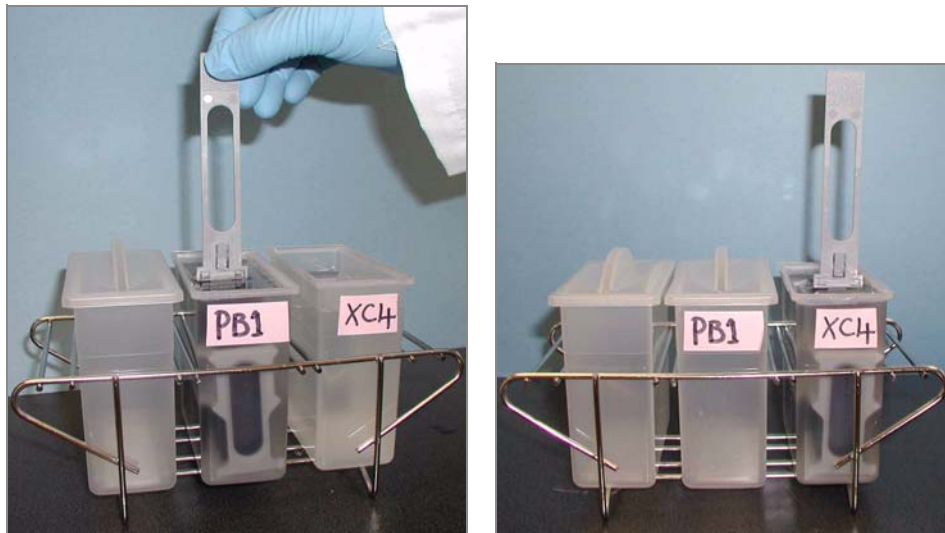

Figure 176 Moving BeadChips from PB1 to XC4
13. Remove the staining rack from the dish containing PB1 and place it directly into the wash dish containing XC4 (Figure 176). The barcode labels on the BeadChips must face away from you, while the locking arms on the handle face **towards** you, for proper handling and coating.